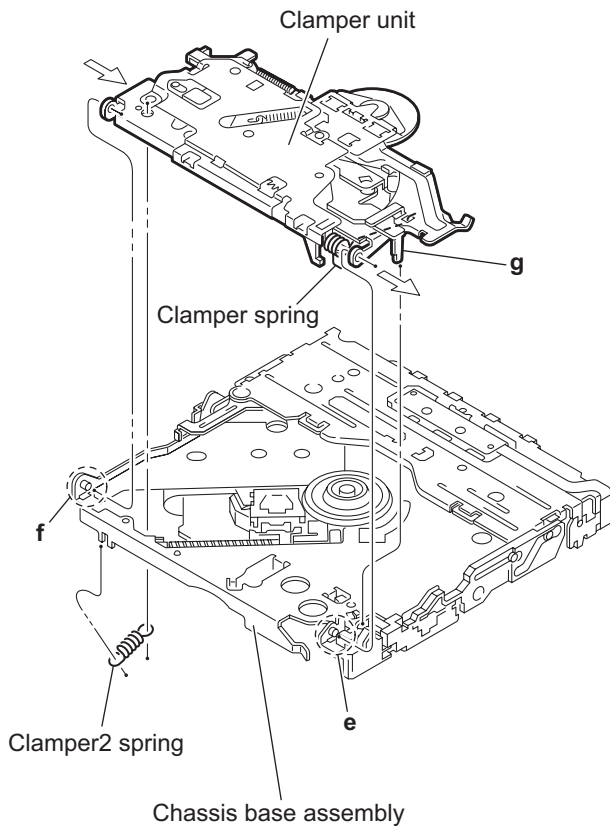

Fig.5
### 3.2.4 Removing the clamper unit (See Fig.5 to 7)
- Remove the clamper2 spring on the bottom of the mechanism section. (See Figs.5.and 6.)
### 3.2.5 Reattaching the clamper unit (See Fig.5 to 9)
- Move the clamper unit to set the side joints **e** and **f** to each boss of the chassis base assembly. Make sure that part **g** is inserted to the notch of the chassis base assembly. (See Figs.5 and 9.)
- Attach the clamper2 spring to the chassis base assembly. (See Figs.5 and 6.)